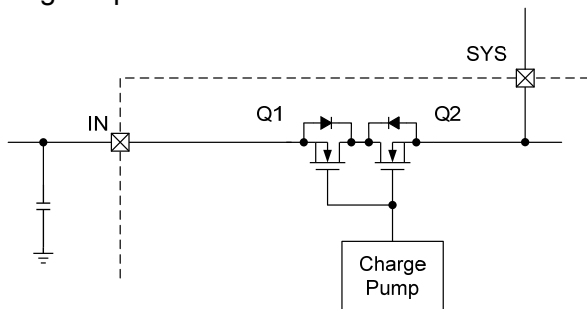

Figure 12: IN-to-SYS Pass-through Path
In charge mode, the MP2636 has five control loops to regulate input voltage, input current, charge current, charge voltage and device junction temperature. The MP2636 charges the battery in three phases, trickle current (TC), constant current (CC), and constant voltage (CV). While charge operation is enabled, all five loops are active but only one determines the IC behavior. A typical battery charge profile is depicted in Figure 11(a). The charger stays in TC charge mode until the battery voltage reaches a TC-to-CC threshold. Otherwise the charger enters CC charge mode. When the battery voltage rises to the CV-mode threshold, the charger operates in constant voltage mode. Figure 12(b) shows a typical charge profile when the input-current-limit loop dominates during the CC charge mode, and in this case the charger maximizes the charging current due to the switching-mode charging solution, resulting in faster charging than a traditional linear solution.